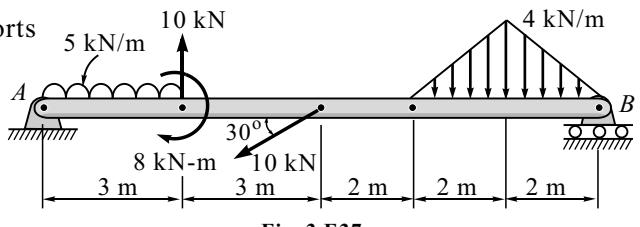

Fig. 3.E37
38. Determine the reactions at all the supports of the beam shown in Fig. 3.E38.